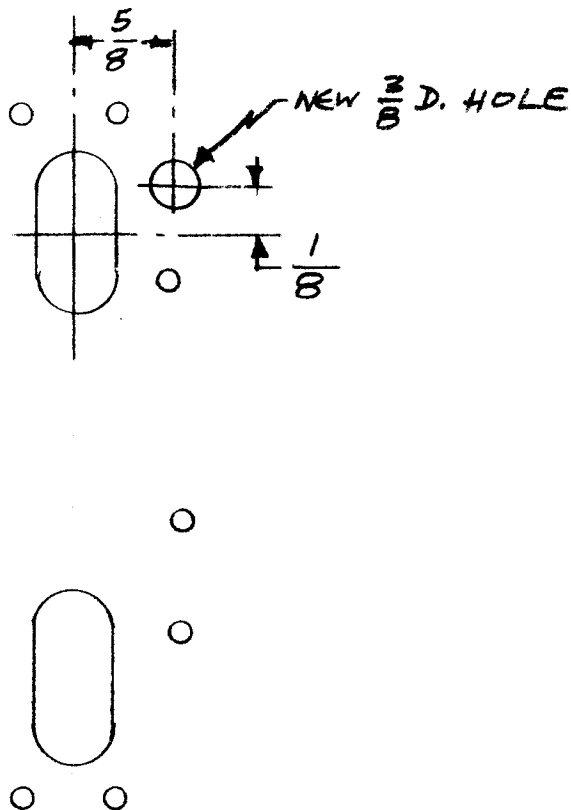

FIGURE 1A
- 18.1 Drill a 3/8 dia hole with item 11.1 in main chassis near slot as indicated on drilling plan (Figure 1A, Sheet 5) and place grommet, item 12.1 (EY102-20) in the 3/8 dia hole.